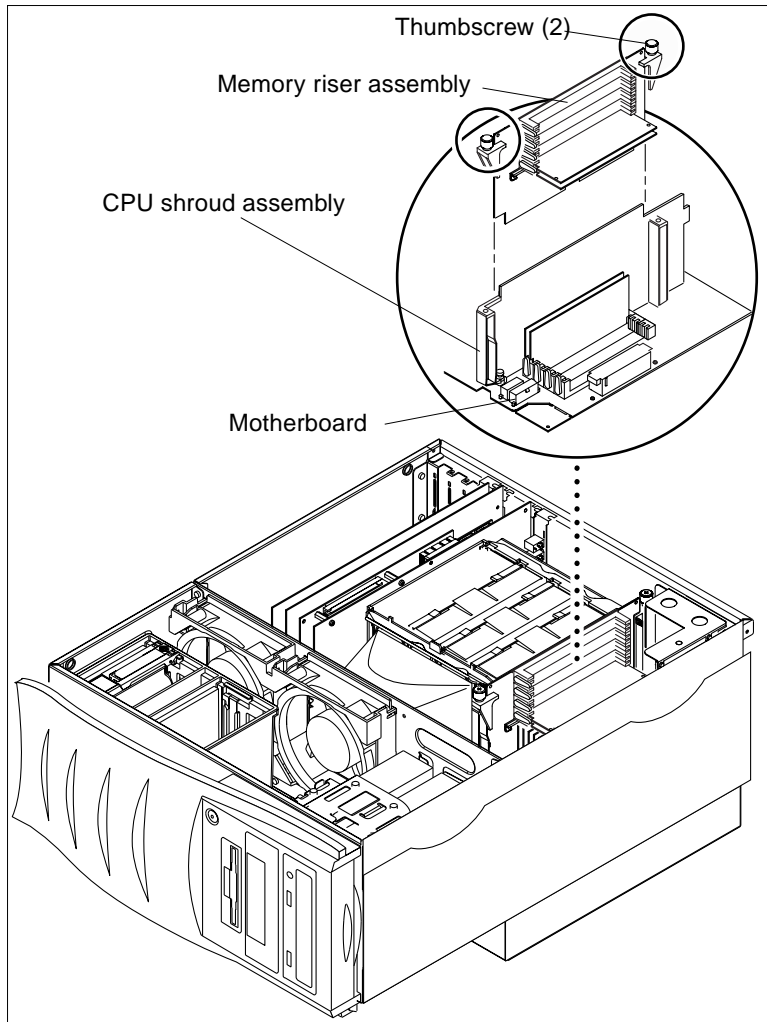

FIGURE 9-10 Removing the Memory Riser Assembly (Sheet 2 of 2)
- c. When the thumbscrews have reached their full travel, lift the memory riser assembly straight up out of the system (FIGURE 9-10).
(FIGURE 9-10).